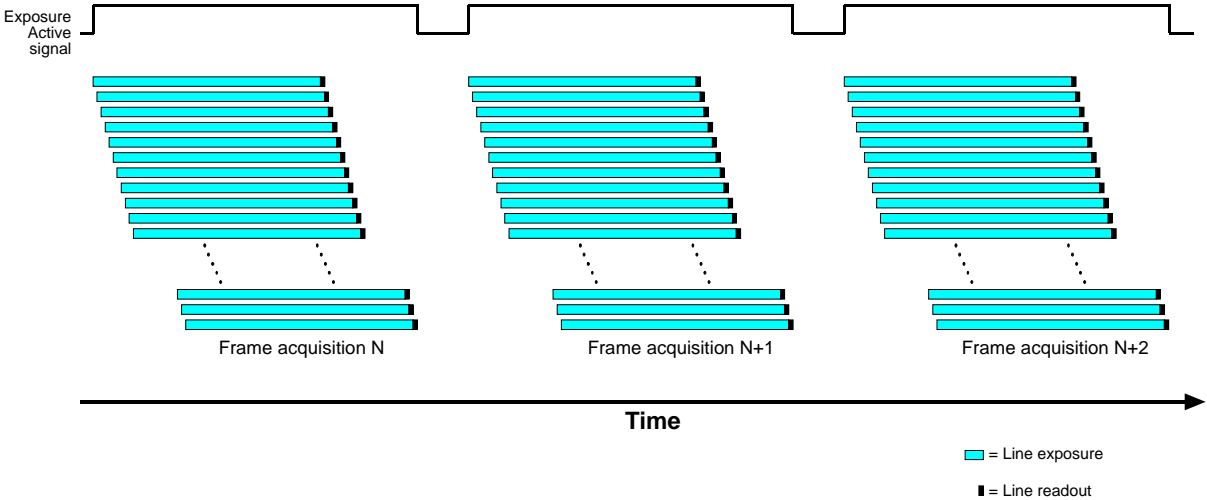

Fig. 88: Exposure Active Signal on Cameras with a Rolling Shutter
- low when exposure for the last line ends as shown in Figure 88.